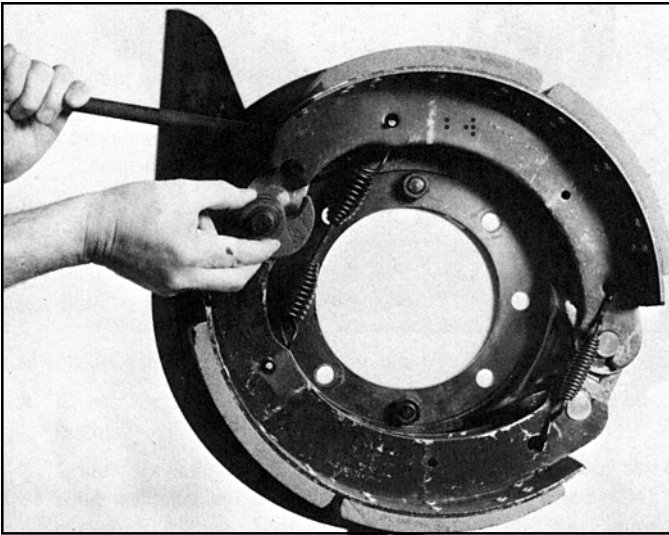

FIGURE 3 - REMOVING CAM ROLLERS
1. Insert a sturdy lever between one of the shoes and the cam shaft housing. Pry shoe away from cam roller until pin and roller assembly can be removed. Repeat on opposite shoe (See Figure 3). (If cam rollers or pins show signs of wear, galling, pitting or cracks, discard and replace with new.)